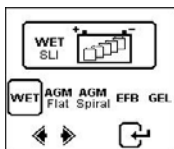

Fig.27
- Press  key and the screen will show as Fig.27 below:
4. Pressing the  key at any moment will exit and return back to the main menu screen (Fig.27)